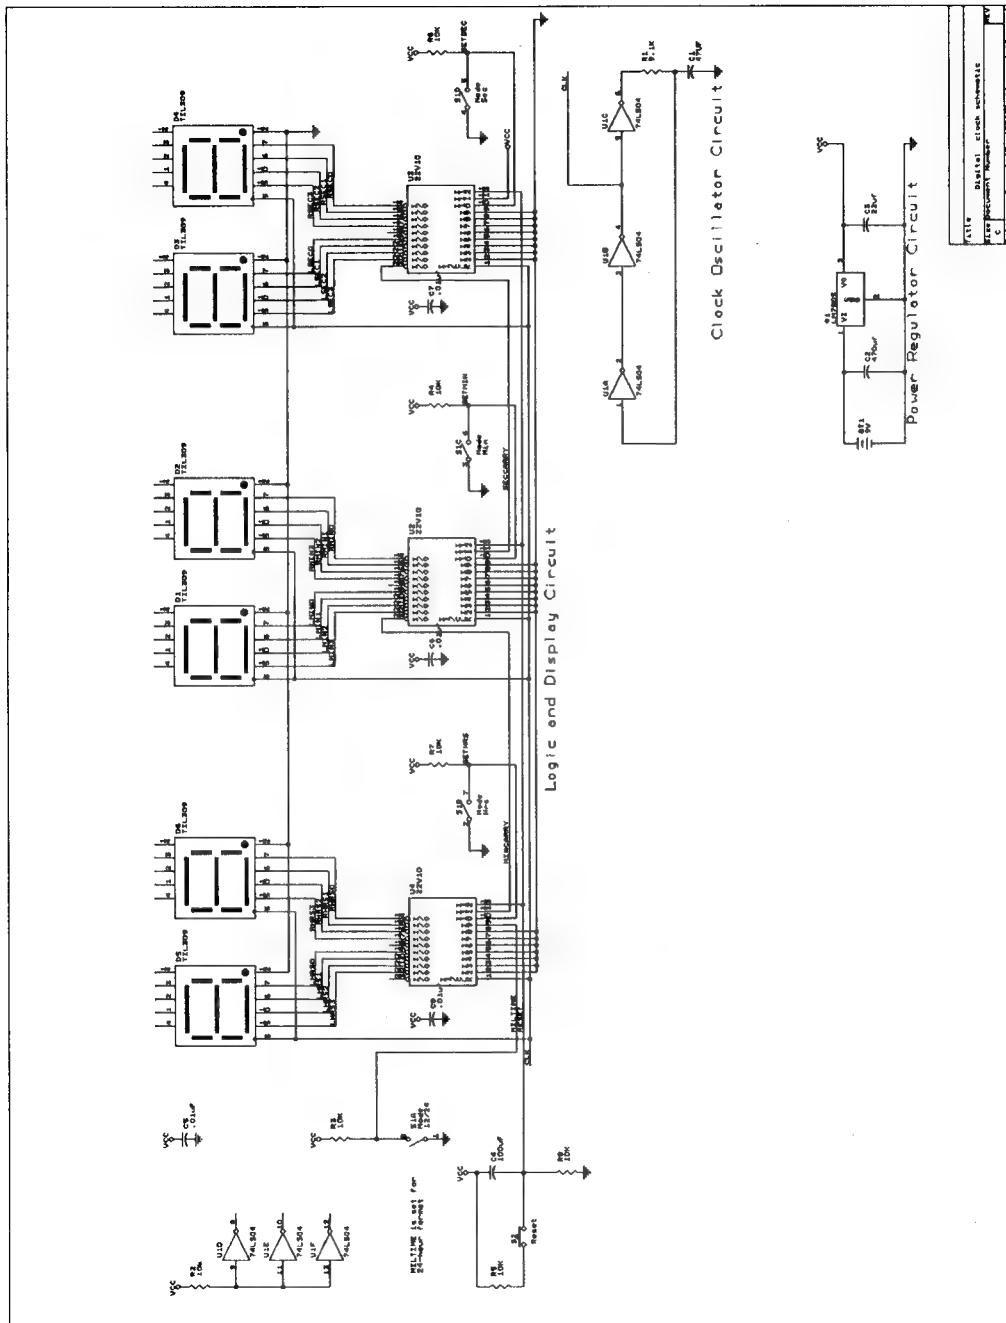

Figure 6-7. Completed TUTOR.SCH schematic.
Figure 6-7 shows how the schematic will look when you complete the remaining steps in this chapter.
Compare the schematic in figure 6-7 with the schematic you have captured so far. Notice that you need to add a few parts and draw a few more wires to have a functional circuit. You also need to edit the labels and other text.
4. Using the same procedure as in steps 2 and 3, assign the values shown in figure 6-7 to the all parts on the schematic. Table 6-1 gives a list of the values to edit (you have already edited the first item in this table). Notice that some of the parts require that you enter information into the **1st Part Field**.
The clock signal from the clock oscillator circuit is now logically connected to the wire to which you attached the CLK label (figure 6-7).
4. The "Label?" prompt returns each time you place a label. Label the following wires: MILTIME, RESET, SETHRS, MINCARRY, SETMIN, SECCARRY, and SETSEC. Refer to figure 6-7 for the location of these wires. Press **<Esc>** to dismiss the "Label?" prompt.
7. See figure 6-7 and place labels for the remaining TIL309s (LMIN n and LSEC n) by repeating steps 1 through 5.
5. Move the pointer to the bottom wire for the right hours display, and place the label as shown in figure 6-7.
8. See figure 6-7 and place labels for the remaining right displays (RMIN_n and RSEC_n) by repeating steps 3 through 7.
7. See figure 6-7 and place the text to the left of the 12/24 switch, at approximately (0.80, 6.10).
9. See figure 6-7 and place the text under the text you placed in step 7.